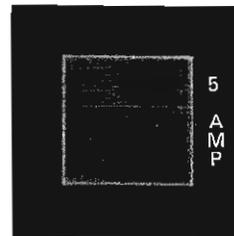

Figure 1-7. Circuit breaker.
f. *Circuit breaker (fig 1-7)*. The circuit breaker disconnects electrical power to the endoscopic instrument light when a malfunction occurs.